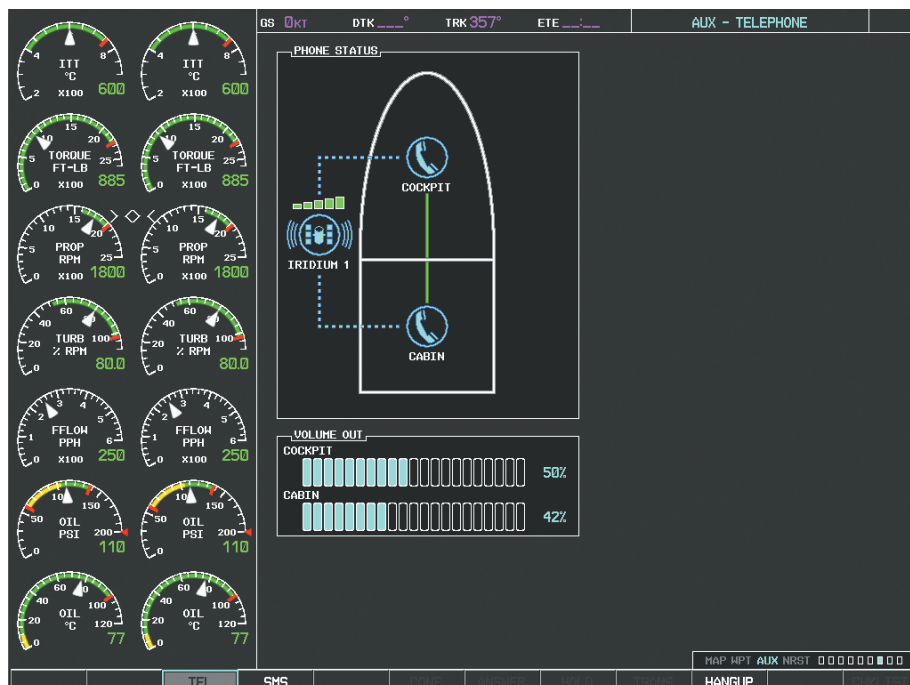

Figure 8-95 Conference in External Phone
- 5) Press the **ENT** Key again to place the call as shown in Figure 8-95.